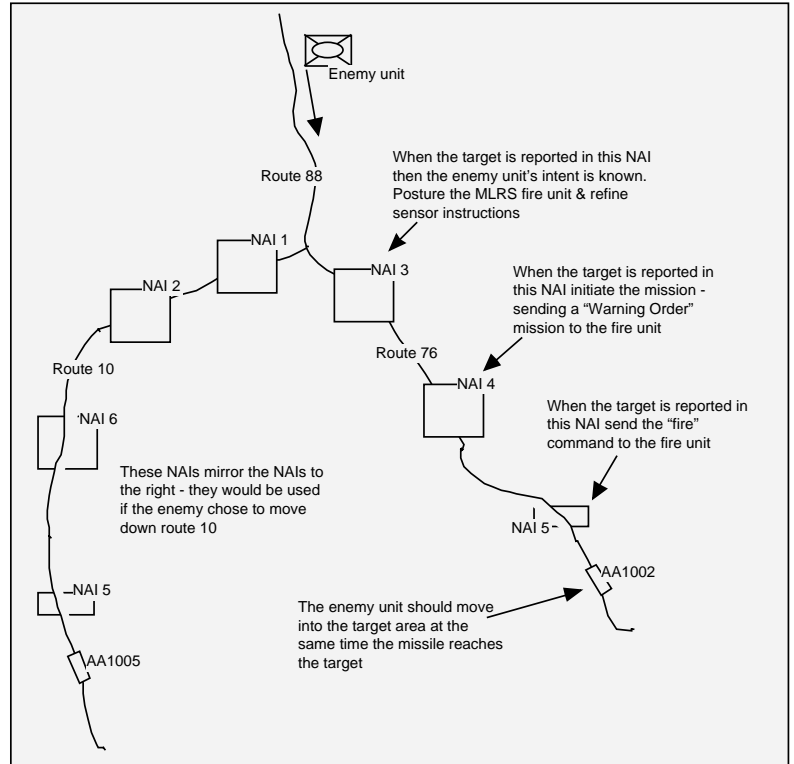

Figure 37. Example of Preplanning an ATACMS Mission
- Create Trigger Events. Create a trigger event for each NAI. The trigger should be based on a target type corresponding to the type of target the sensor will be reporting (e.g. Armor Vehicle). For example, Trigger Rule is: Target type Armored Veh reported in NAI 12. Using the Figure 37 as an example, triggers would include: